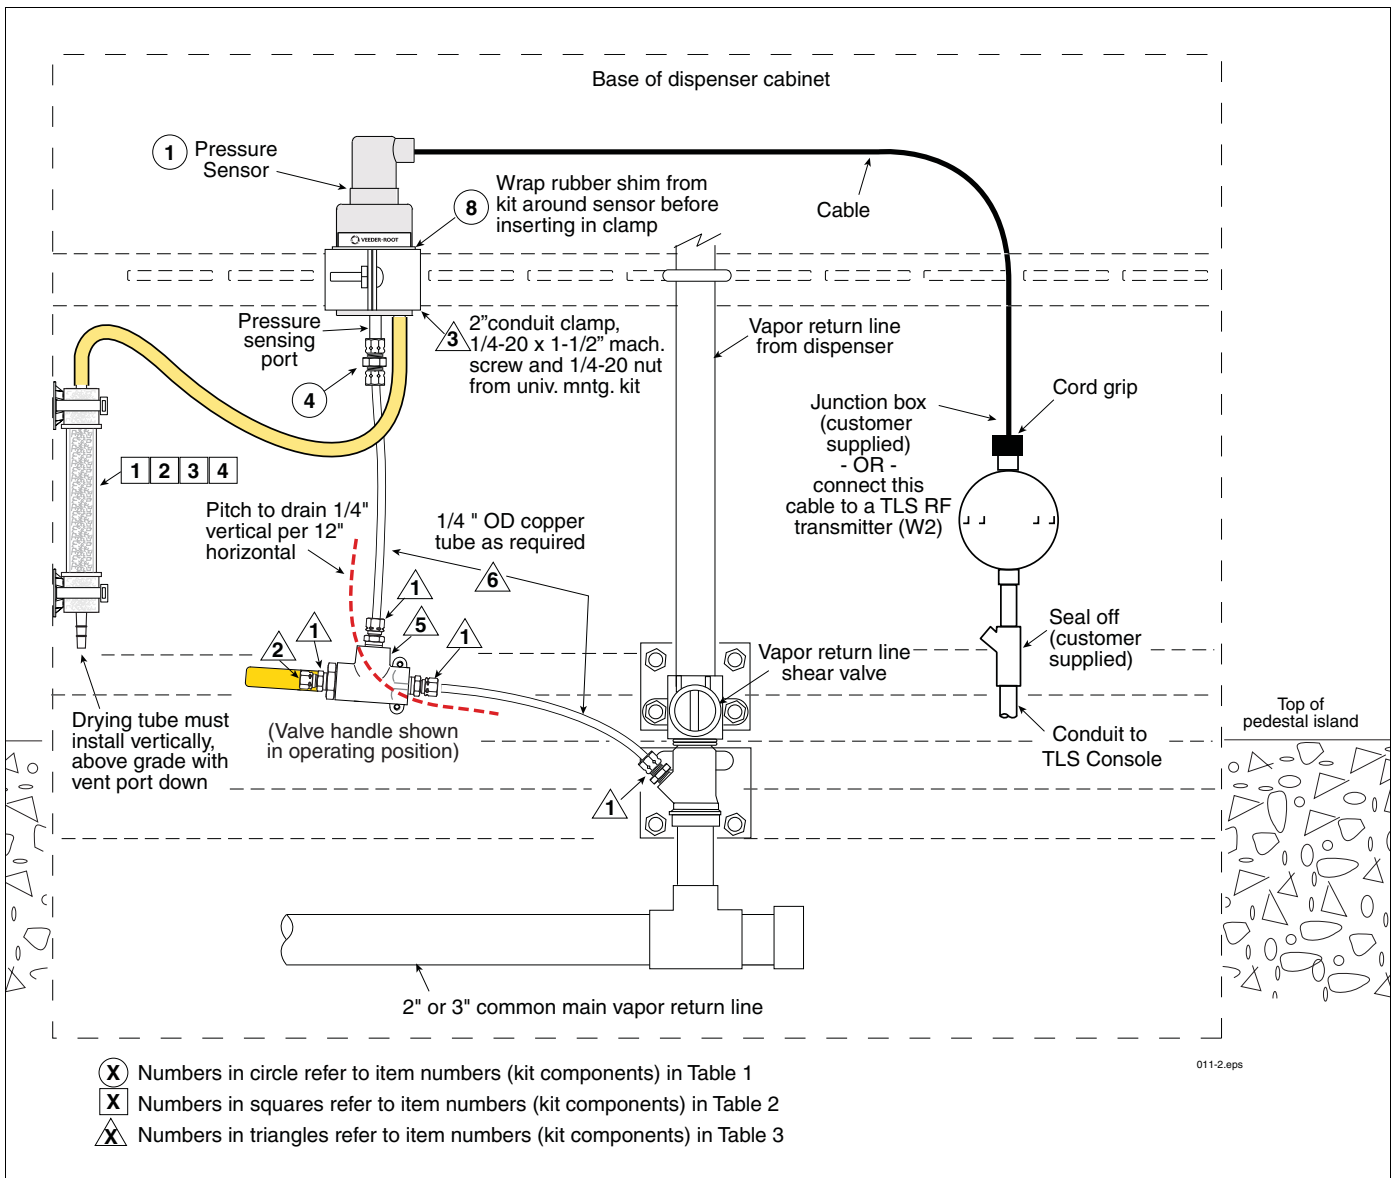
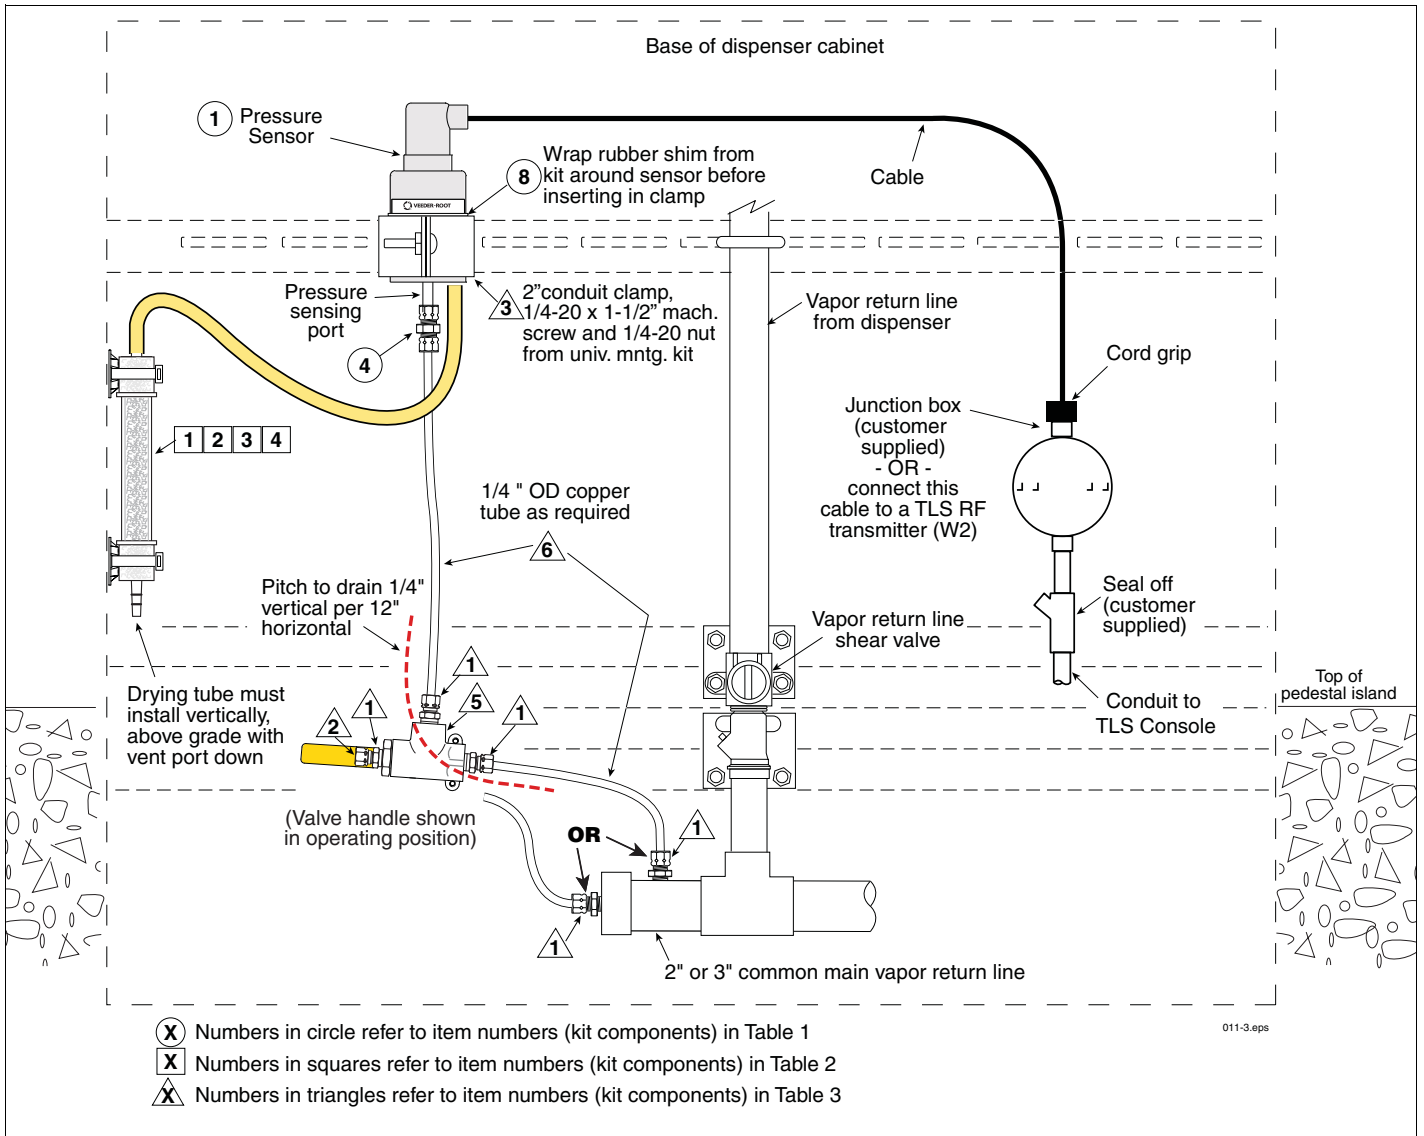
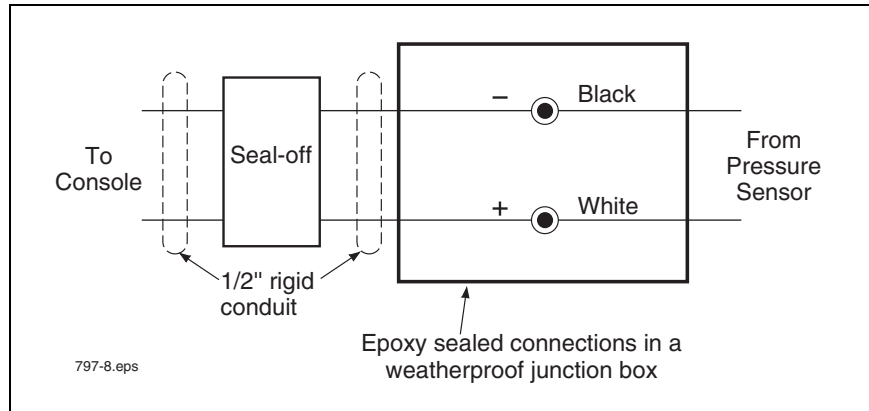

Figure 1. Example Pressure Sensor Install In Shear Valve Port - Preferred Non-ISD Installation (Without Vapor Flow Meter)
Figure 2. Example Pressure Sensor Install In Vapor Return Line - Non-ISD Installation (Without Vapor Flow Meter)
Figure 3. Field wiring Pressure Sensor - Observe Polarity
3. Refer to Pressure Sensor dispenser installation examples in Figure 1 and Figure 2 to locate a suitable port or plumb a suitable fitting for the Pressure Sensor tubing in either the vapor return shear valve or in the vapor return line. **NOTE: In ISD installations, the pressure port used must be below the vapor flow meter outlet.**
4. Install one of the 68CA-4-4 male connectors (item 1 in Table 3) from the kit into the vapor return tapped hole.
5. Install Pressure Sensor (item 1 in Table 1) vertically to the dispenser frame or piping using the 2-inch conduit clamp, rubber shim, and necessary bolts, nuts, and washers from the included Universal Sensor Mounting kit (item 3 in Table 3). Wrap the rubber shim (item 8 in Table 1) around the sensor before inserting it into the clamp. Also make sure the sensor cable outlet is facing up and the pressure sensing port tube in the base of the sensor is facing down.
6. Attach one end of the 62CA-4 union (item 4 in Table 1) to the pressure sensing port in the base of the Pressure Sensor.
7. Install the remaining 68CA-4-4 male connectors (item 1 in Table 3) from the kit into each of the three ports in the 3-way calibration valve (item 5 in Table 3).
8. Measure, fabricate, and install a 1/4" OD copper tube (item 6 in Table 3) that runs between the 62CA-4 union in the base of the sensor and the center port of the 3-way calibration valve.
10. Screw the 59CA-4 plug, (item 2 in Table 3) onto the left port's male connector. Make sure the valve's handle is set to connect the sensor to the vapor return line (normal operating position).
11. Route the cable from Pressure Sensor to the Pressure Sensor junction box in the dispenser. Observing polarity, connect the sensor wiring to the field wiring from console and cap with wire nuts (see Figure 3) - OR - terminate the wiring in the TLS RF transmitter (W2). In wireless installations, the wiring is not sealed and does not run back to the TLS console and Steps 12, 13 and 14 ARE NOT REQUIRED.
15. Get the contents of the pressure sensor drying tube kit (Table 2). Thread a tie wrap (item 3) through the slots in each of the self-adhesive mounts (item 4). Place the top mount against the large cap on one end of the tube and tighten the tie wrap until it is against the tube cap but you can still rotate the tube. Place the second mount against the other end cap of the tube, again pulling the tie wrap through the mount until it is against the tube cap but you can still rotate the tube.
Remove the two soft plastic seals from each end port of the drying tube. Get the Tygon tubing (item 2) from the kit and attach one end of the tubing to one end of the drying tube. Slide the tubing onto the drying tube as far as you can (snug). Referring to Figure 1, position the drying tube vertically against the inside of the dispenser with the open port of the tube down and above grade and estimate the length needed to loop from
Remove the paper cover from the self-adhesive base of the two tie wrap mounts and stick the drying tube to the inside of the dispenser in the spot you selected earlier. Pull each of the tie wraps snug and cut off the excess. Attach the other end of the Tygon tubing to the vent port (off center) of the Vapor Pressure Sensor. NOTE: the down port of the drying tube must remain open and be oriented down as shown in Figure 1.